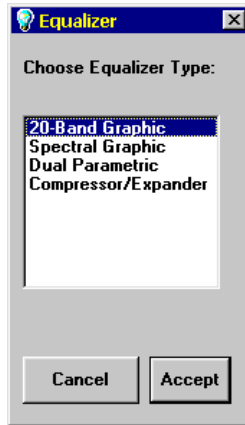

Figure 3-11 Tutorial Equalizer Selection Window
32. Click on the **Select** button in the Equalizer block. The window in Figure 3-11 will appear.